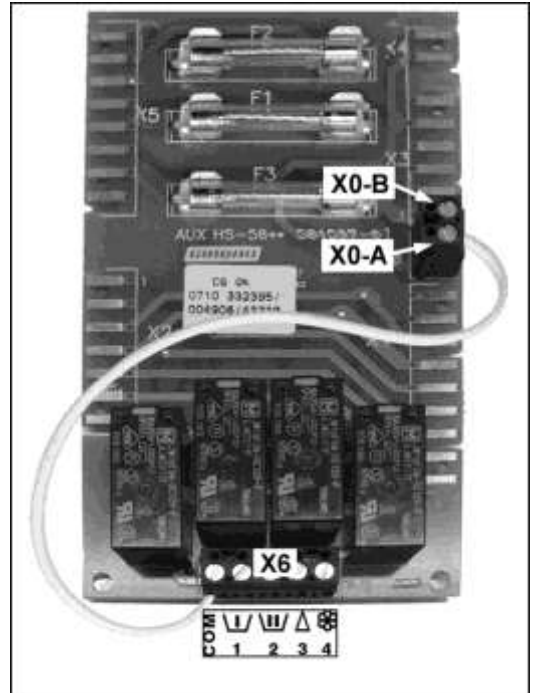

Fig. 3.13
**3.5.1.d. Dosing equipment connection. RELAY CONTACTS POWERED FROM THE WASHER CONTROL CIRCUIT. (Fig. 3.13)**
**Dosing signals connection (Fig. 3.13)**